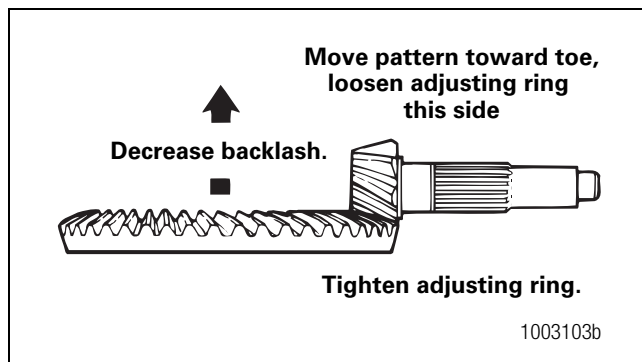

Figure 5.71
- A. Decrease the backlash to move the contact patterns toward the toe of the ring gear teeth. Figure 5.71.